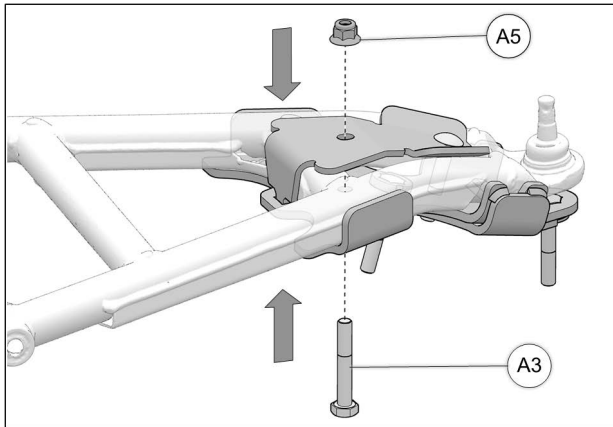

Fig. 15
7. Insert M10x65mm bolt (A3), from the bottom, through hole at the back of the bracket and cover. Secure parts using provided M10 nut (A5). Tighten to 50 Nm [37 lb•ft]. Refer to Fig. 15